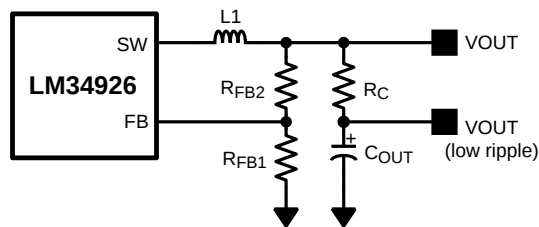

Figure 13. Low Ripple Output Configuration
The LM34926 step-down switching regulator features all the functions needed to implement a low cost, efficient, isolated bias supply. This high voltage regulator contains 100V, N-channel buck and synchronous switches, is easy to implement, and is provided in thermally enhanced SO PowerPAD-8 and WSON-8 packages. The regulator operation is based on a constant on-time control scheme using an on-time inversely proportional to V_{IN} . This control scheme does not require loop compensation. Current limit is implemented with forced off-time inversely proportional to V_{OUT} . This scheme ensures short circuit protection while providing minimum foldback. The simplified block diagram of the LM34926 is shown in Figure 13.
This regulator regulates the output voltage based on ripple voltage at the feedback input, requiring a minimum amount of ESR for the output capacitor (C_{OUT}). A minimum of 25mV of ripple voltage at the feedback pin (FB) is required for the LM34926. In cases where the capacitor ESR is too small, additional series resistance may be required (R_C in Figure 13 Low Ripple Output Configuration).
For applications where lower output voltage ripple is required the output can be taken directly from a low ESR output capacitor, as shown in Figure 13 Low Ripple Output Configuration. However, R_C slightly degrades the load regulation.